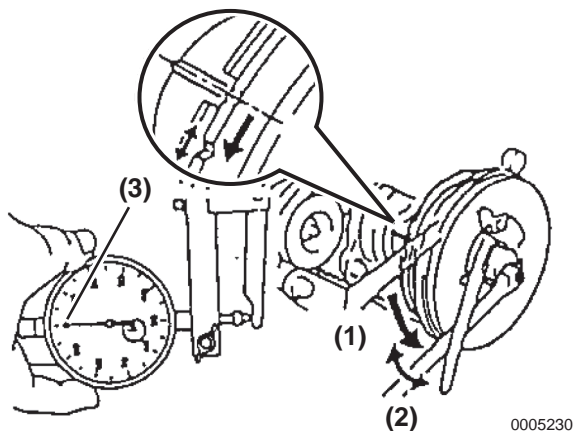

Figure 5-229
7. Turn the crankshaft clockwise (**Figure 5-229, (1)**) and counterclockwise (**Figure 5-229, (2)**) and check that the dial indicator reads the minimum. *NOTICE: Check that the minimum reading is zero 0 mm (0 in.) (Figure 5-229, (3)).*